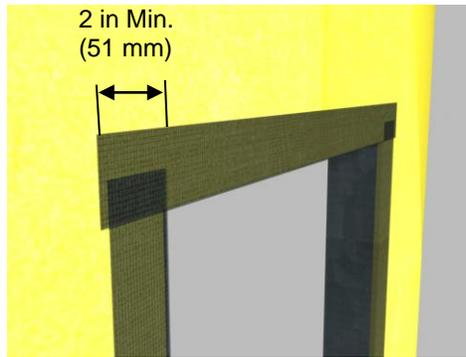

Figure 4
5) Install the AquaFlash System at the head overlapping the jamb pieces a minimum of 51 mm (2 in) -Figure 4.